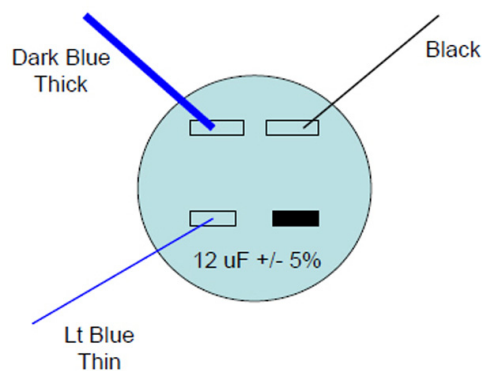

FIGURE 8-16 CABLE PLACEMENT
3. Connect the three cables to the contacts located on the top of the Capacitor. Refer to Figure 8-16 for correct placement.
7. Connect the Motor's blue and black wires to the proper contacts on the Capacitor. Refer to Figure 8-16 for correct placement.